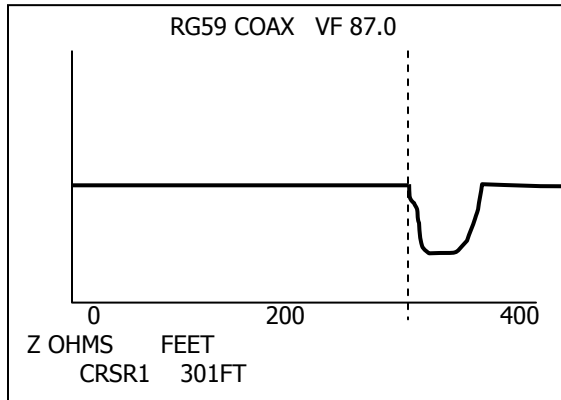
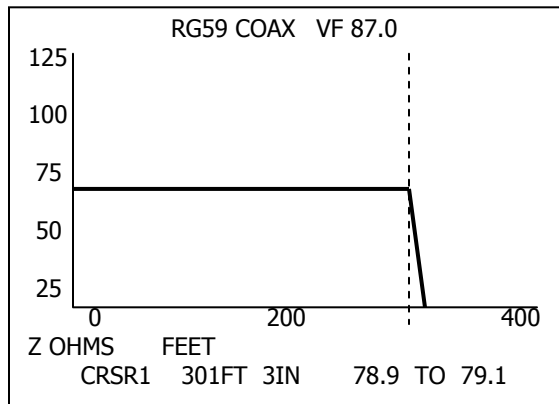

Figure 3
Figure 4
Figures 3 and 4 depict the electrically short termination of a cable. Figure 3 depicts a pulse TDR and Figure 4 a step TDR. Again, the cable could be physically longer, but any point where the pair's conductors make direct contact constitutes the electrical end of the cable. The impedance (Z) will go to zero ohms.